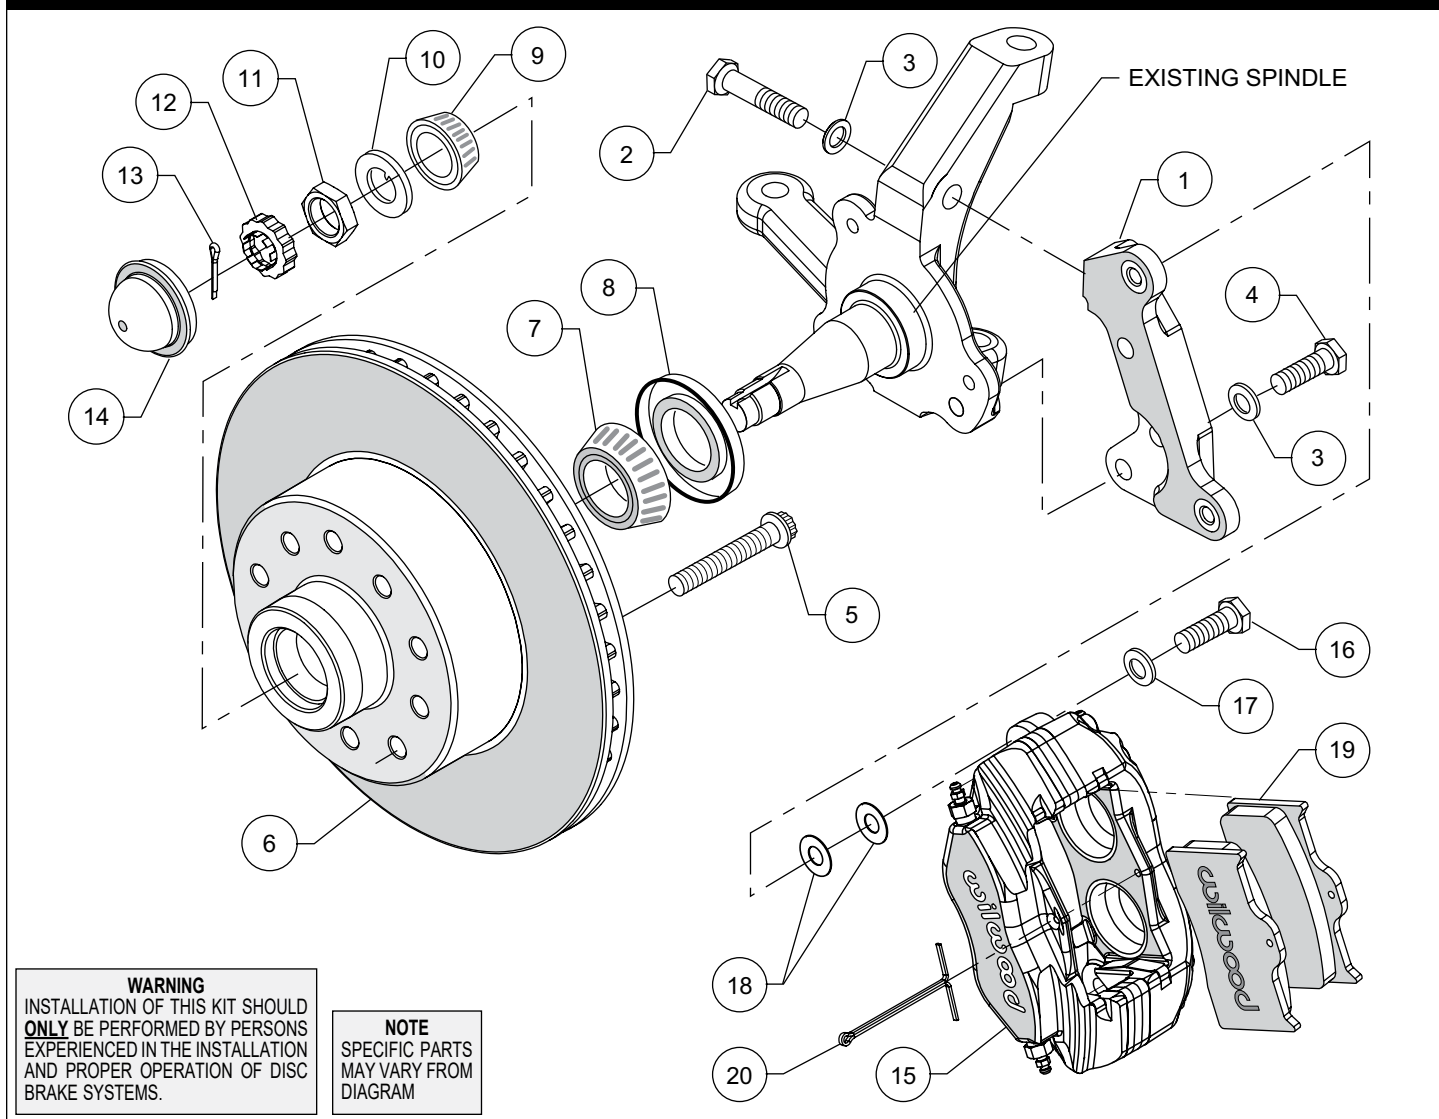
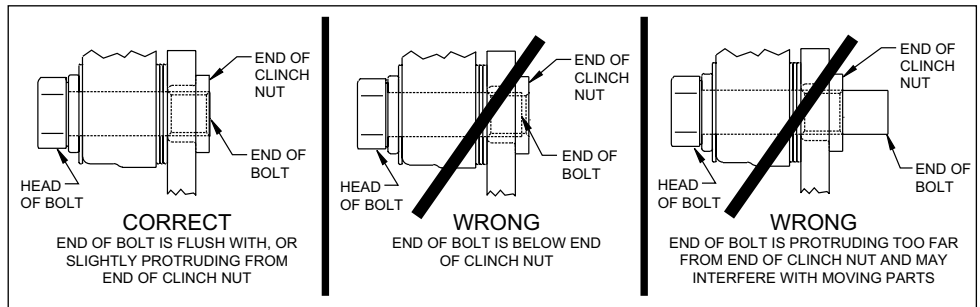

Figure 1. Typical Installation Configuration
Figure 3. Clinch Nut Engagement Diagram
**NOTE:** Numbers in parenthesis refer to the parts list and Figure 1 on the preceding pages.
**CAUTION:** All mounting bolts must fully engage clinch nuts. Be sure to check that all bolts are either flush or protruding through flanged side of clinch nut after shimming, Figure 3.
•Orient the caliper mount bracket (1) as shown in Figure 1 and Photo 1, and install using bolts (2/4) and washers (3). Ensure that the flanged heads of the clinch nuts in the bracket are facing outboard, Photo 1. Temporarily tighten the mounting bolts.
•Install wheel studs (5) into the hub (6), Photo 2. Apply red *Loctite*® 271 to the threads and torque to 77 ft-lb. **NOTE:** There are two five lug patterns in the hub (5 x 4.50 and 5 x 4.75). Ensure the correct hub stud pattern is being used to fit the wheel application.
•Pack the large inner bearing cone (7) with high temperature disc brake bearing grease (available from your local auto parts store) and install into the backside of the hub (6), Photo 3.
•Install the grease seal (8) by pressing into the backside of the hub (6), flush with the end of the hub.
•Pack the small outer bearing cone (9) with high temperature disc brake bearing grease and install into the front side of the hub (6). Slide the hub/rotor onto the spindle, Photo 4. Secure using spindle washer (10) and spindle nut (11). Adjust bearings per OEM specifications. Install spindle nut retainer (12) and cotter pin (13), Photo 5.
•Press the dust cap (14) into the hub (6), Photo 6. **NOTE:** Do not hammer center of cap. Install using outer flange only.
•**NOTE:** Please reference the caution statement at the beginning of the assembly instructions. Mount the caliper (15) onto the caliper mounting bracket (1) using bolts (16) and washers (17), as shown in Figure 1. Initially place two .035" thick shims (18) on each bolt between the caliper and the bracket, Photo 7. Temporarily tighten the mounting bolts and view the rotor (6) through the top opening of the caliper. The rotor should be centered in the caliper, Photo 8. If not, adjust by adding or subtracting shims between the bracket and the caliper. Always use the same amount of shims on each of the two mounting bolts. **NOTE:** The end of each bolt must be flush with or slightly protruding from the head of the clinch nut, as shown in Figure 3. If necessary place spare shims between washer (17) and caliper mounting ear to achieve the proper clinch nut engagement. Once the caliper alignment and clinch nut engagement are correct, remove the bolts one at a time, apply red *Loctite*® 271 to bolt threads, and torque to 40 ft-lb.